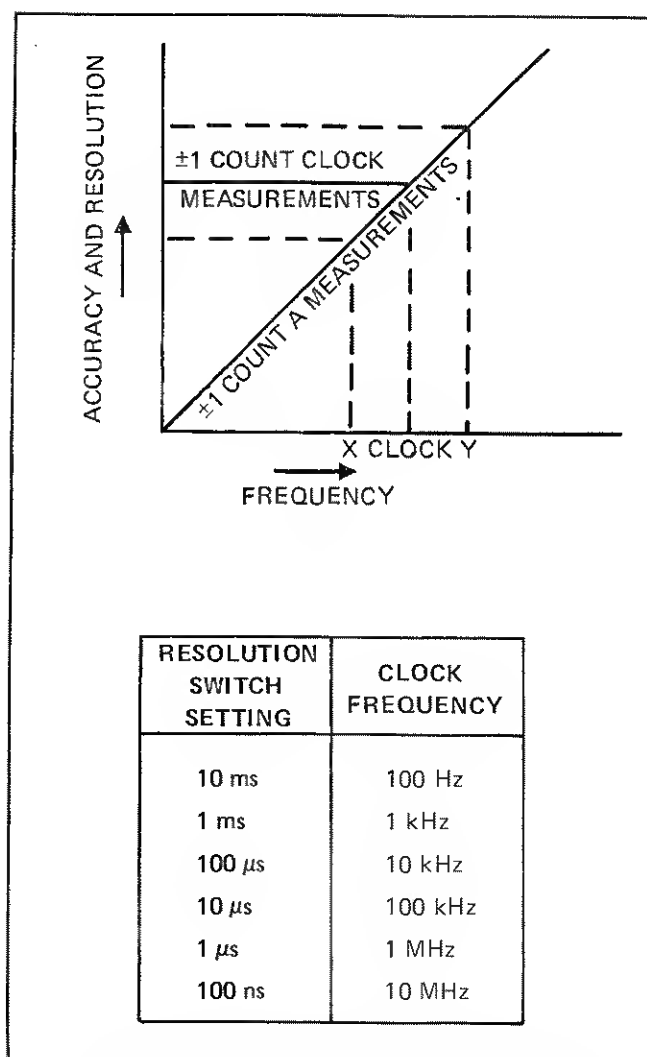

Figure 2-11. Frequency Effect on Accuracy
2. The percentage accuracy of functions affected by ±1 count A depends upon the frequency of the input signal. As frequency increases, accuracy increases. As frequency decreases, accuracy decreases. The sloped line (±1 count A), in Figure 2-11, illustrates this concept. With a higher frequency input, more counts will be made per gate time, and ±1 count error will become less significant. The percentage error is thereby reduced.